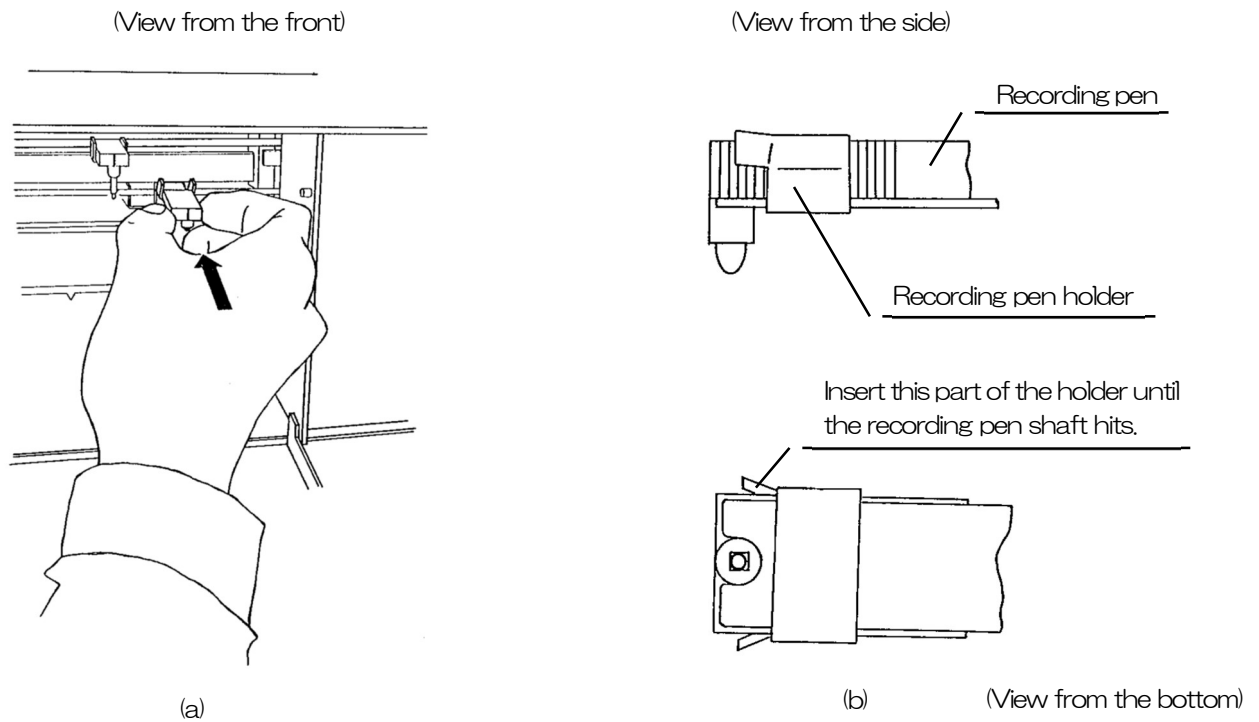

Figure 4.5.1
- (1) Open the front cover.
- (2) Remove the cap of the recording pen and insert the recording pen into the recording pen holder. (See Figure 4.5.1 (a))
Please confirm that it is firmly attached. (See Figure 4.5.1 (b))